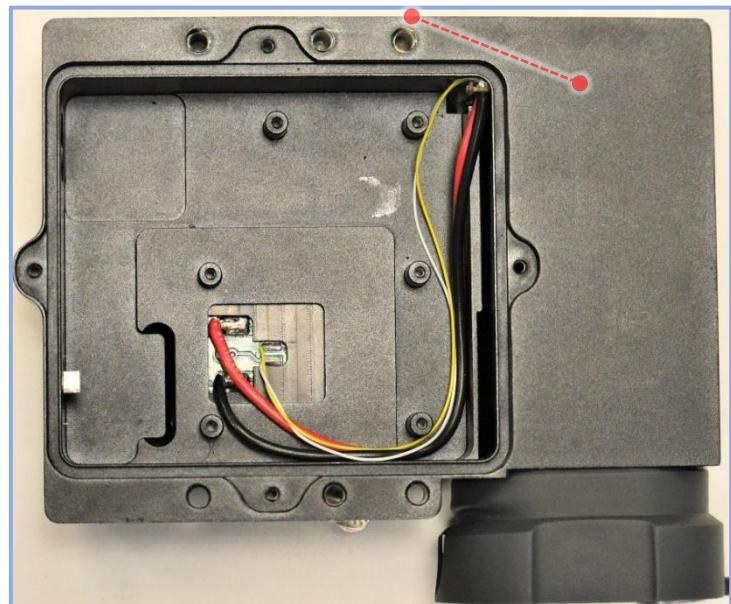

Figure 8 - Wires Oriented Around Body Standoffs
- 9.2.3.1 Bend and shape all four wires as seen in Figure 8 so that they all travel against the two walls in the body to reach the slot in the corner with the battery board